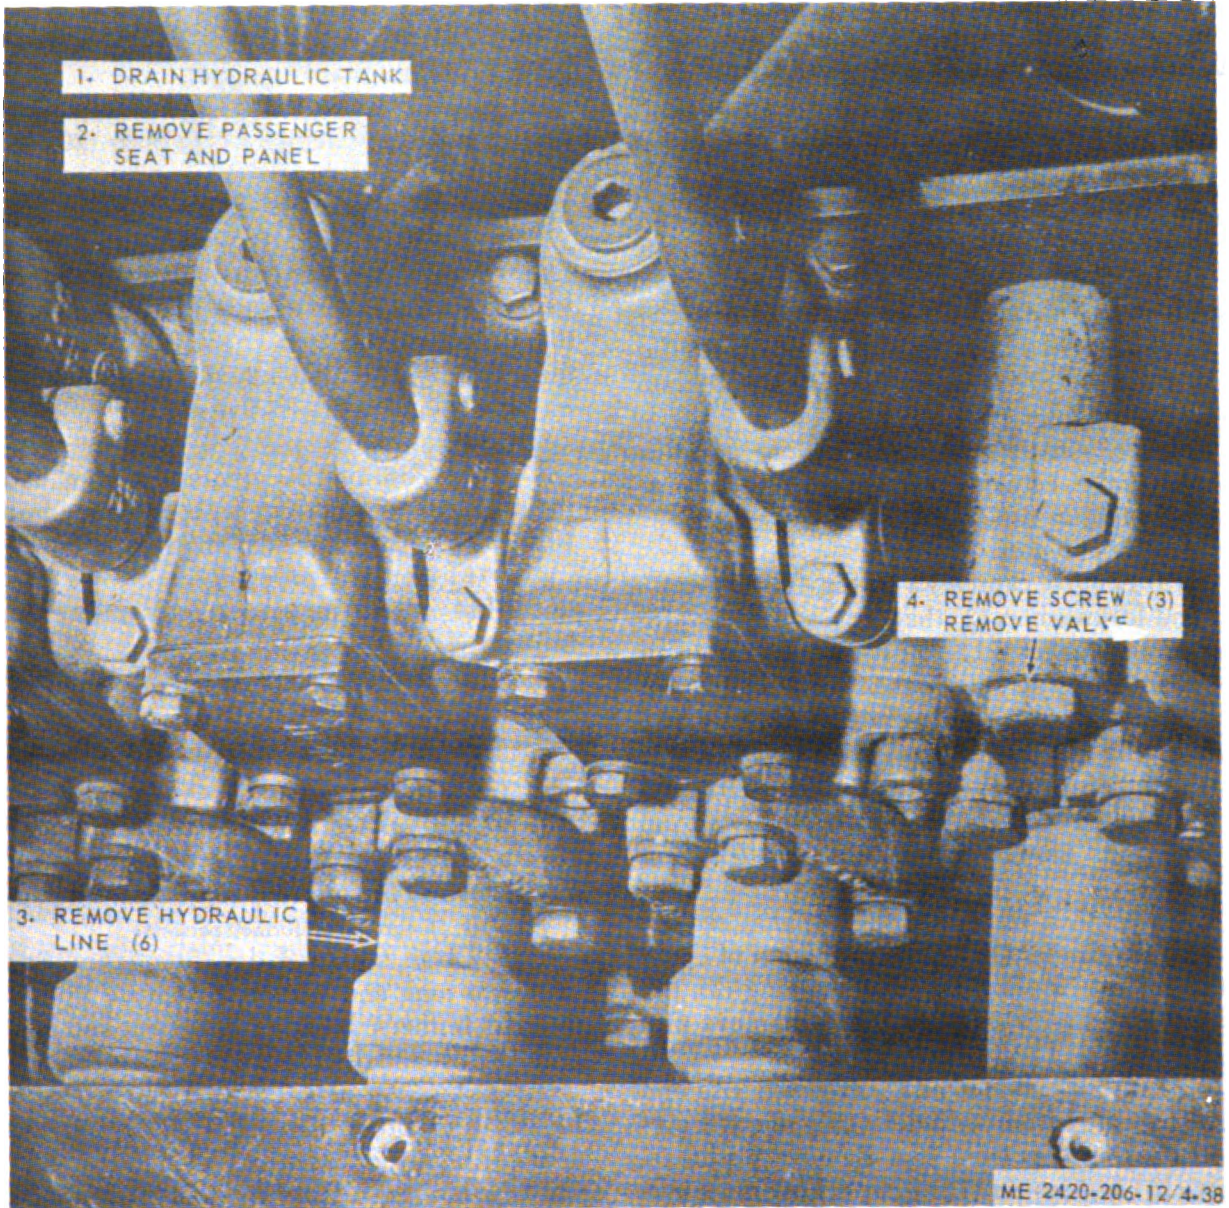

Figure 4-38. Scraper hydraulic valve, removal and installation.
a. *Removal.* Remove scraper hydraulic valve as illustrated in figure 4-38.
(1) Wipe parts and dry thoroughly.
(2) Inspect for cracks, breaks and other damage. Replace defective valve.
c. *Installation.* Install scraper hydraulic valve as illustrated in figure 4-38.